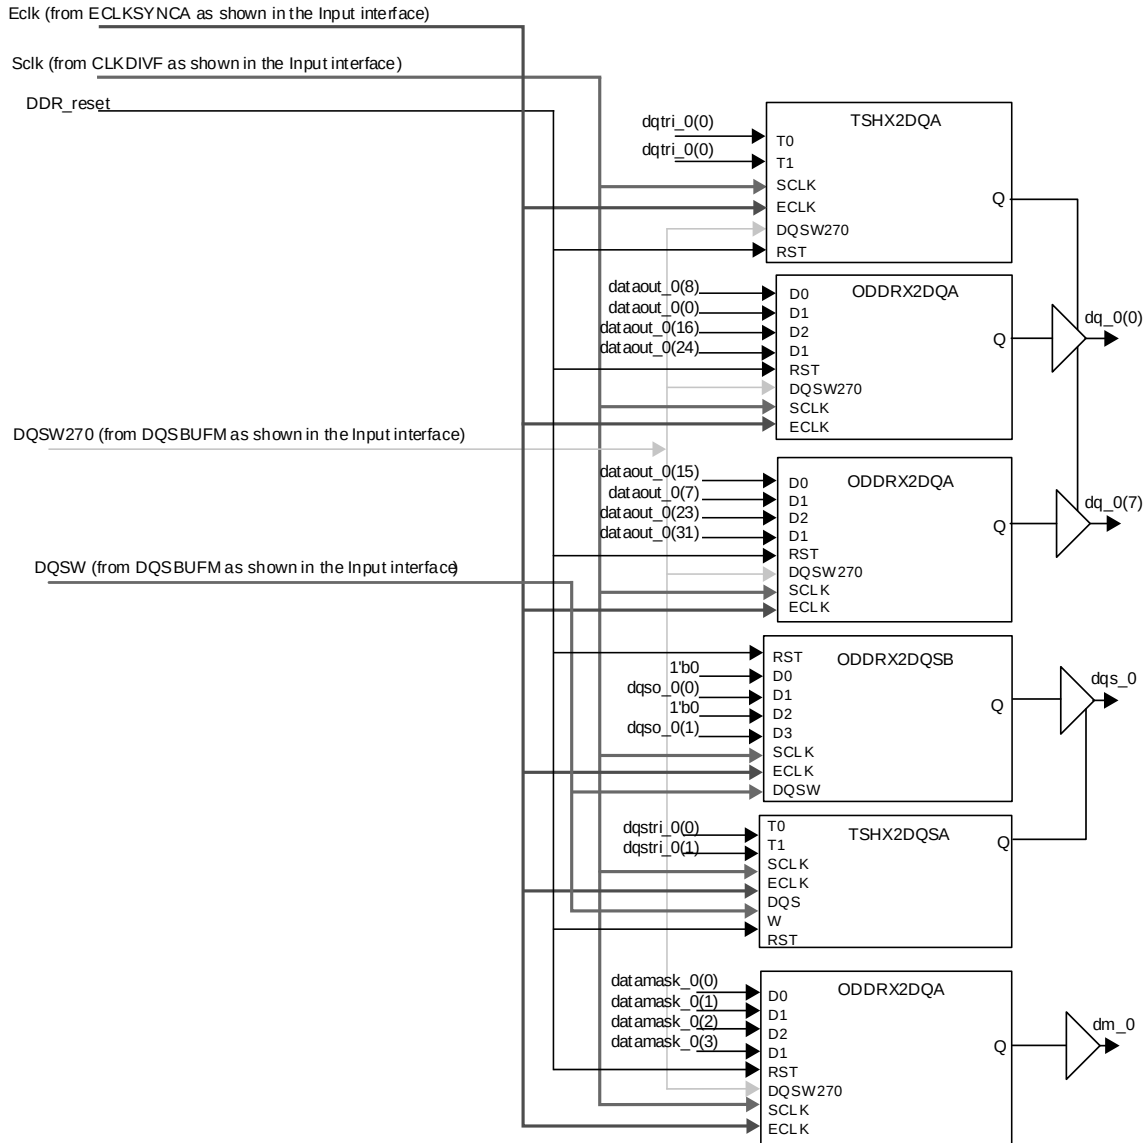

Figure 6.9. DDR3/DDR3L and LPDDR2 Write Side (DQ, DQS, and DM)
Figure 6.9 shows the DDR3/DDR3L and LPDDR2 memory interface write side implementation to generate DQ, DQS, and DM outputs.
- Figure 6.9 shows one tristate. The software generates one tristate element for each DQ port.